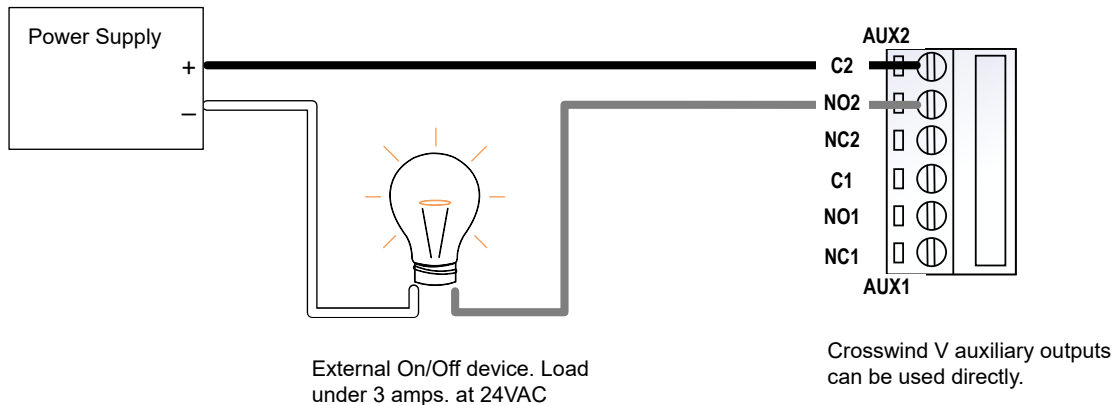

Figure 155. Applications up to 24V AC, 3 Amps max.
3. Connect the wires coming from the power source and the external device, following these guidelines. See Figure 155 for further clarification.